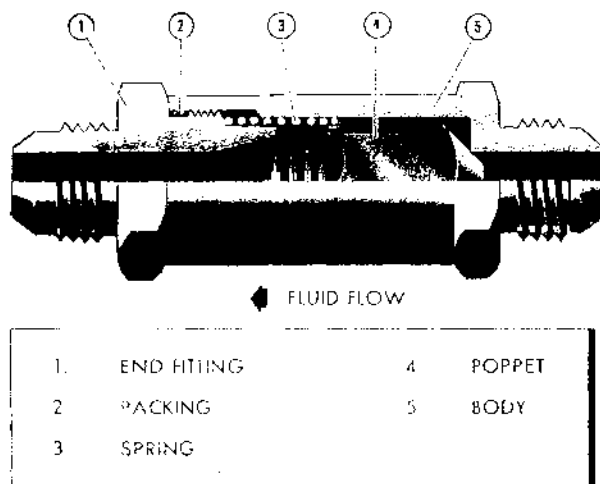

Figure 173 — Check Valve
b. HYDRAULIC CHECK VALVES. (See figure 173.)